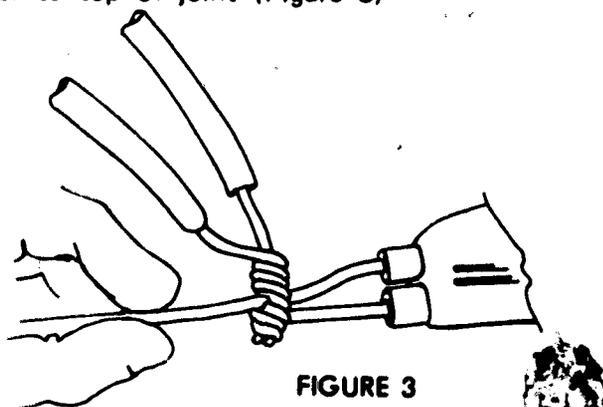

FIGURE 3
G. Apply solder to top of joint (Figure 3)